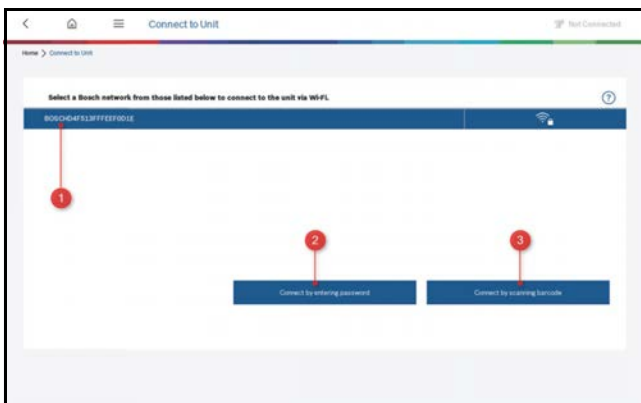

Fig. 26 Select Network
- Click the **Continue** button in the app. The Bosch network for the unit displays as shown in Fig. 26.